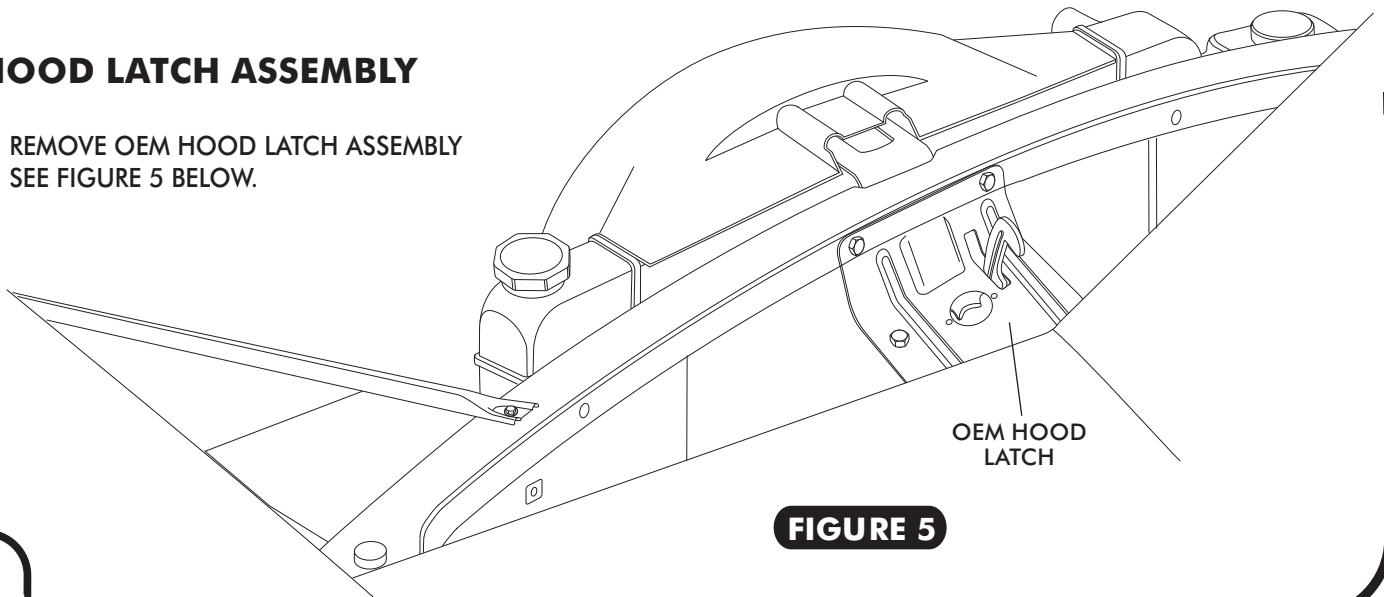

FIGURE 5
- REMOVE OEM HOOD LATCH ASSEMBLY SEE FIGURE 5 BELOW.